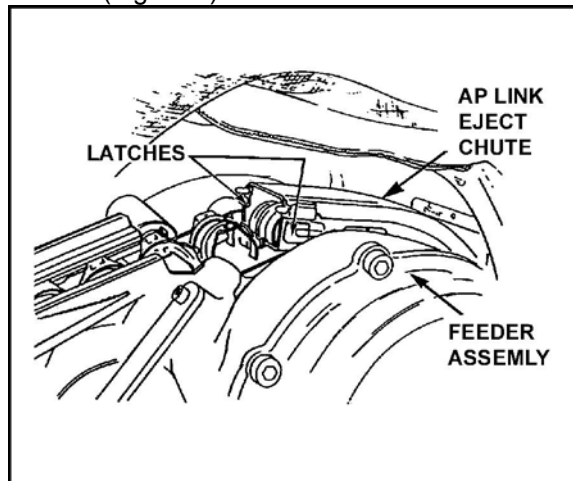

Figure 3. Latches.
(1) Squeeze the latches (Figure 3).